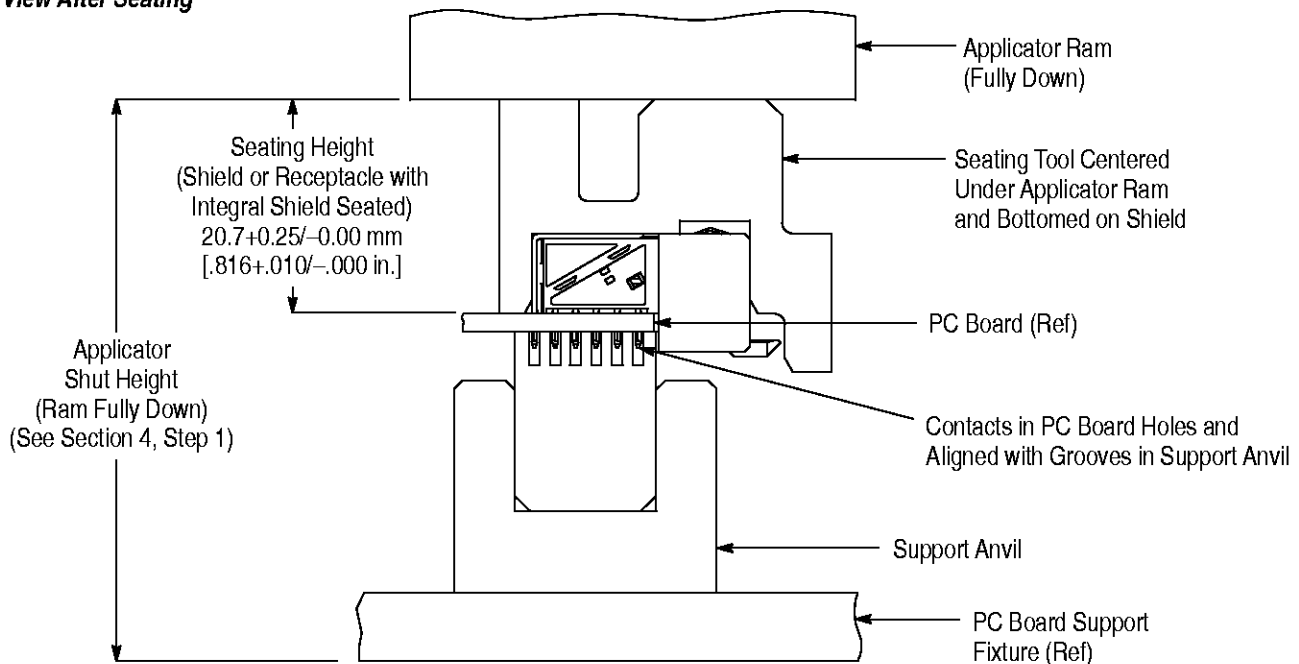

Figure 2
1. Set seating height to the dimension shown in Figure 2 (applicator shut height will equal the seating height PLUS the combined thicknesses of the pc board, support anvil, and pc board support).
3. Position shield or receptacle (with integral shield) onto the pc board so that the contacts are properly aligned to the pc board and the support anvil. See Figure 2.
7. Cycle applicator ram according to instructions for the power source. Check assembly for proper seating using the requirements in Figure 2.